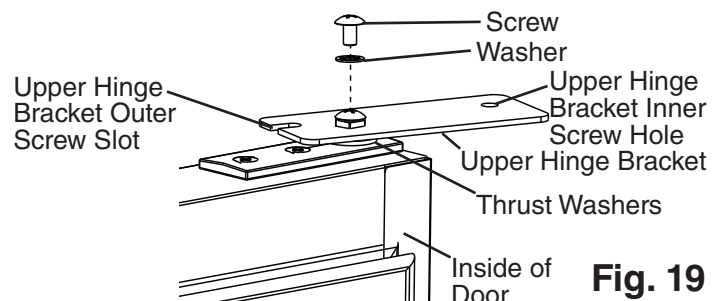

Fig. 19
- 11) Make sure the thrust washers are in place on the spring cartridge, then flip the upper hinge bracket over from its original position and install onto the spring cartridge in the door open position. See Fig. 19. The upper hinge bracket should be positioned as shown.